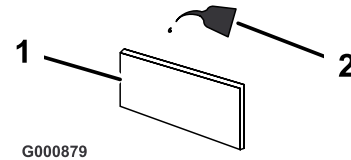

Figure 32
- C. Soak the element in new engine oil. (Figure 32). Squeeze the element to remove excess oil.